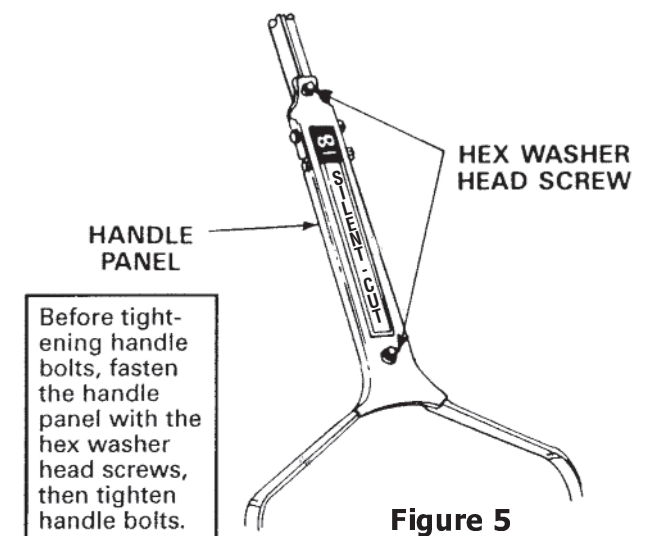

Figure 5
6. Place the handle panel over the handle and insert the 12 x 1 screws into the notches between the handle braces and the upper handles (fig.5)